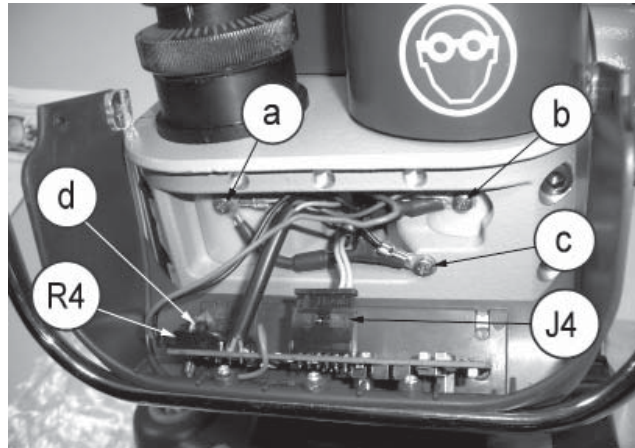

Fig. 67
- 2) Detach the connectors (J4 and (R4) (Fig. 67).